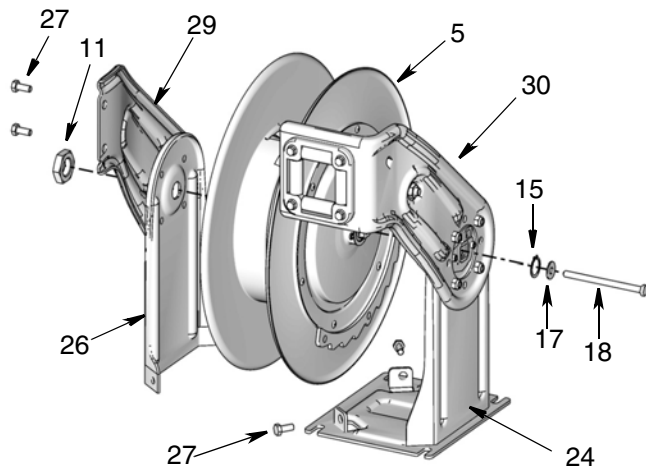
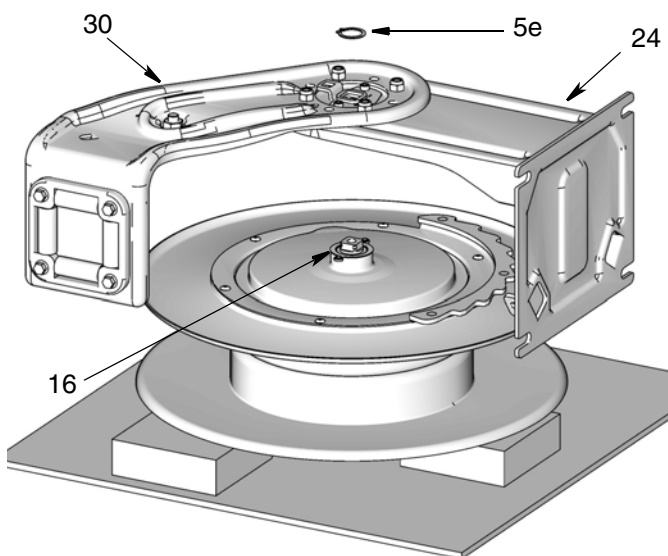

FIG. 16
FIG. 17
5. Remove large nut (11) (FIG. 16).
6. Remove two screws (27) holding pedestal (26) to base (24) and two screws (27) holding guide arm (29) to guide arm (30) (FIG. 16).
7. Completely remove guide arm and pedestal assembly (26 / 29) and set it aside to reinstall on the new spool (FIG. 16). These parts do not have to be disassembled.
8. Lay hose reel on its side so you can easily access the guide arm and pedestal (24 / 30). Remove long bolt (18) and washers (15 / 17) (FIG. 16 and FIG. 17).
9. Remove snap ring (5e) (FIG. 17).
12. Place new spool (5) on its side on a work bench. Make sure the flat side of the spool faces down on the table and the ratchet side is facing up, as shown in FIG. 17.
NOTE: It is easier to reattach the guide arm and pedestal assembly to the spool if the spool is supported and somewhat level. Placing a couple blocks of 1" thick scrap wood under the spool as shown in FIG. 17 (page 22) will help support the spool during the arm installation.
19. Install large nut (11) (FIG. 16, page 22). Tighten and torque nut to 85-105 ft. lbs (378 - 467 N.m).
20. Tighten bolt (18).
21. Align guide arm (29) and guide arm (30). Install screws (27). Tighten and torque screws to 20-30 ft. lbs (89 - 133 N.m).
22. Align pedestal assembly (26) to base (24). Install 2 screws (27). Tighten and torque screws to 20-30 ft. lbs (89 - 133 N.m).